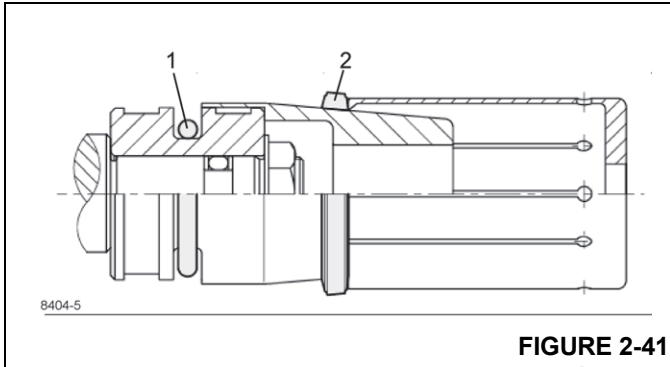

FIGURE 2-41
1. Place rubber O-ring item 1 (Figure 2-41) into groove.
2. Warm up turcon ring item 2 in oil approximately 80° - 120°C (176-248°F). Then push on to the assembly shell preferably using a spreading sleeve.